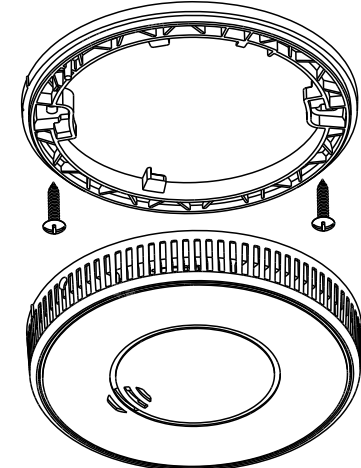

Fig. 6 – Fixing the smoke alarm base
6. Attach the base to the ceiling with the screws supplied (see Fig. 6).